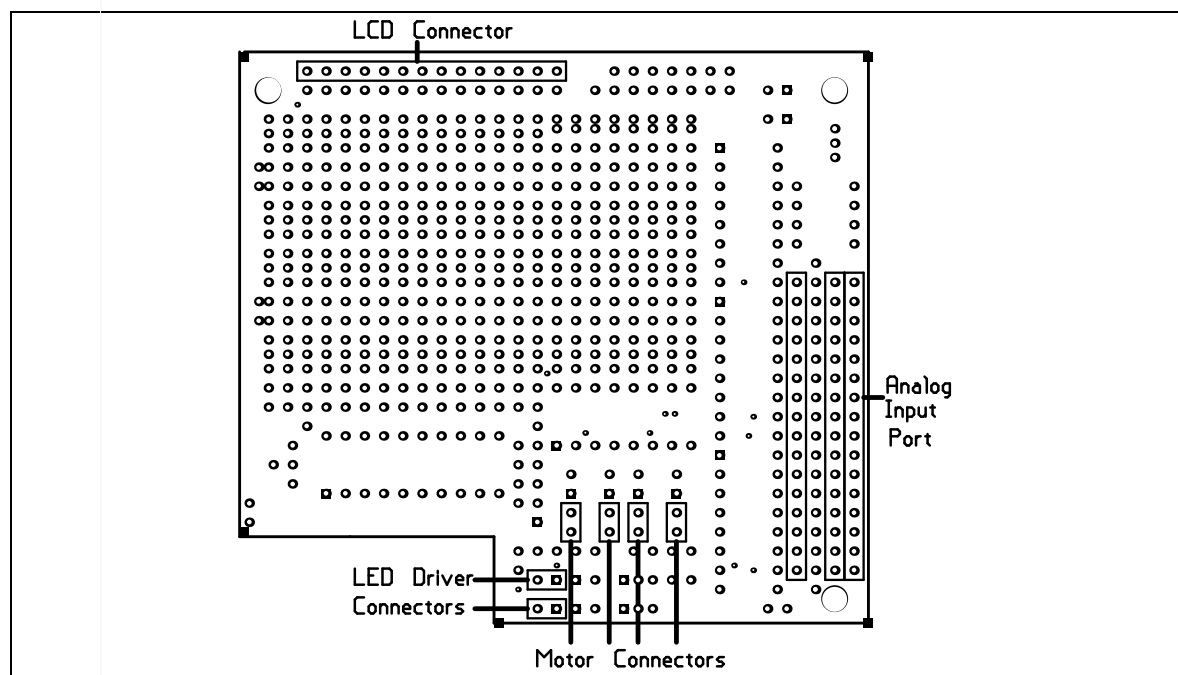

Figure 4.9: Expansion Board Female Header Mounting
Refer to Figure 4.9 to be sure of placement of these parts.
- Cut one 14-long strip. Install the **LCD Connector**. *Note:* The correct position for this header is *not* the location marked *LCD CONNECTOR* on the board. The correct position is indicated properly in Figure 4.9, at the top edge of the board.